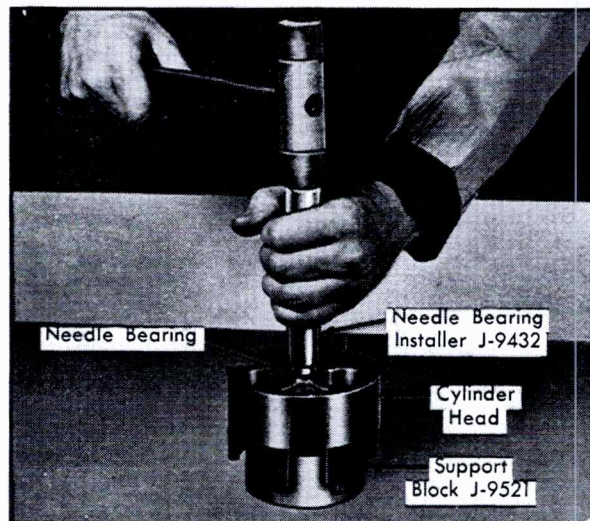

Fig. 1-62 Installing Needle Bearing
17. Needle bearings may be removed if necessary by driving them out with special Thin Wall Socket, J-9399. Insert socket in hub end (inner side) of cylinder head and drive bearing out. To install needle bearing, place cylinder half on Support Block, and insert bearing in end of cylinder head with bearing identification marks up. Use Needle Bearing Installer, J-9432, and drive bearing into cylinder head, Fig. 1-62, until tool bottoms on cylinder face.